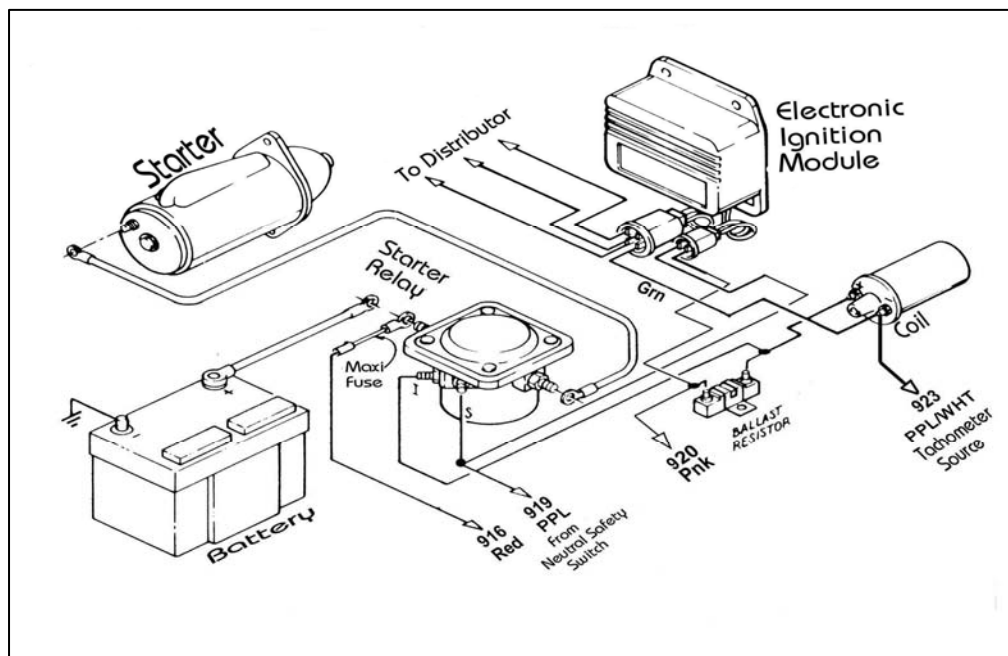

Figure 8.3 Motorcraft Electronic Ignition System
8.4.1 Connect the wires of the IGNITION SWITCH SECTION according to **Table 8-1. Figure 8-3** represents three (certainly not all) possible Ford ignition switch connector configurations and how they should be wired to the Painless steering column pigtail connector.